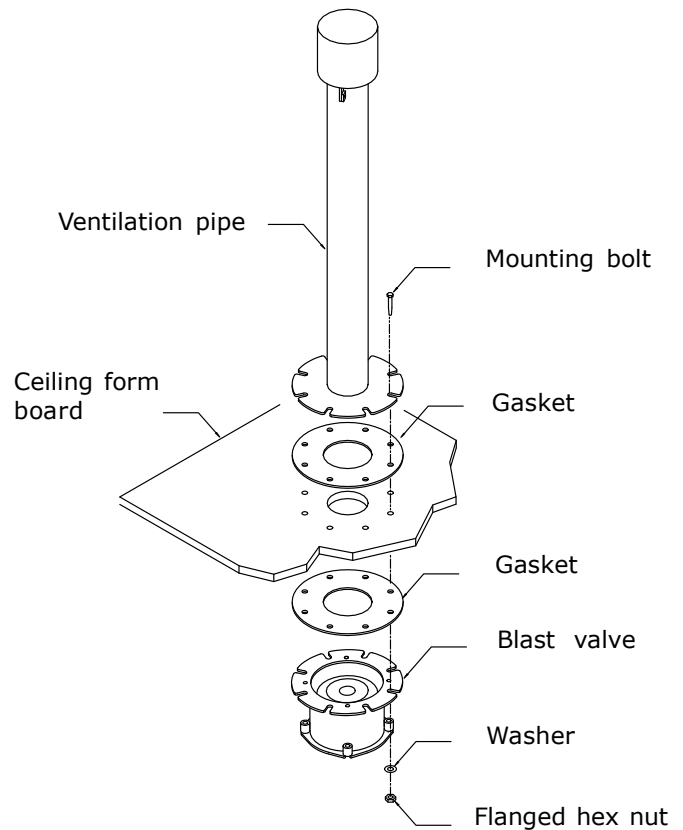

Figure G-5
4. Air ventilation 4-inch, figure G-5.
3. Using the 8 each ½ inch X 3-in length bolts, sandwich the assembly together as shown in figure G-5.